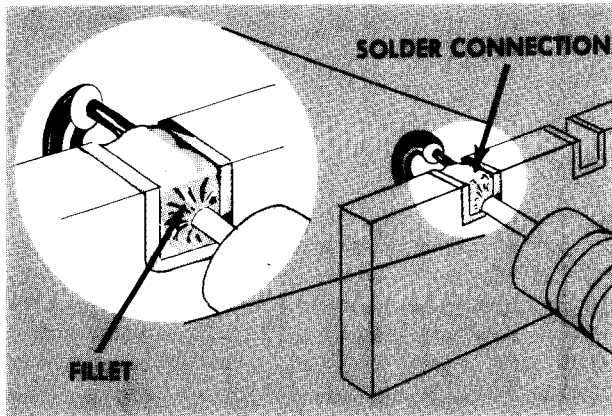
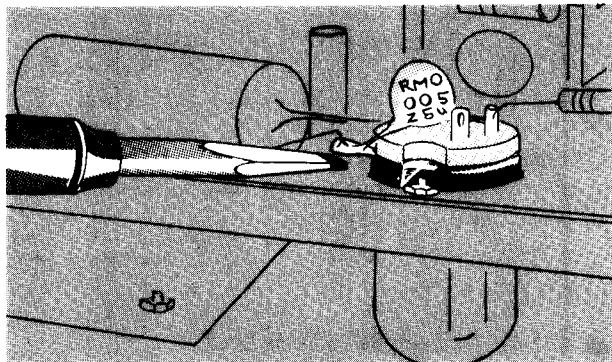

Fig. 4-3. Note the slight fillet formed on a correctly soldered joint.
Fig. 4-4. Soldering to a metal pin.
6. Do not attempt to fill the notch on the strip with solder; instead, apply only enough solder to cover the wires adequately, and to form a slight fillet on the wire as shown in Fig. 4-3.
In soldering to metal terminals (for example, pins on a tube socket) a slightly different technique should be employed. Prepare the iron as outlined above, but tin with ordinary tin-lead solder. Apply the iron to the part to be soldered as shown in Fig. 4-4. Use only enough heat to allow the solder to flow freely along the wire so that a slight fillet will be formed as shown in Fig. 4-3.